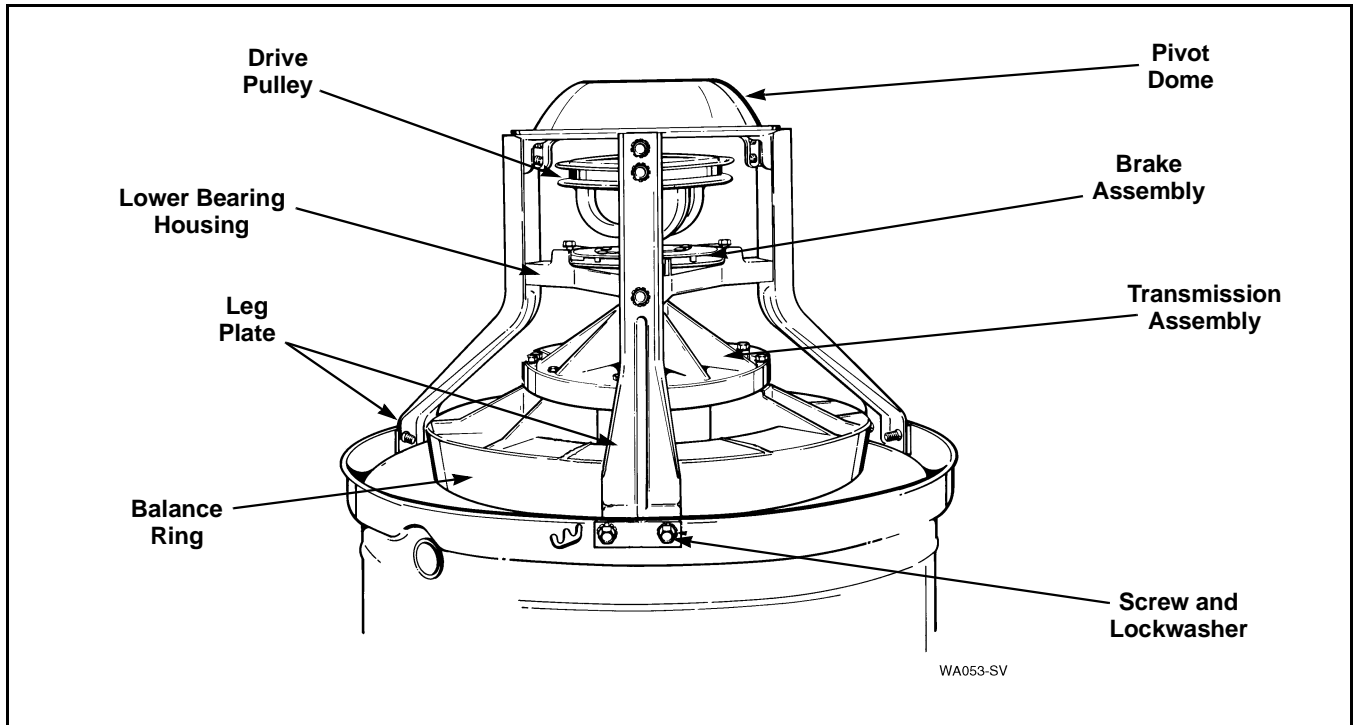

Figure 44
- s. Remove screws and lockwashers holding each support leg to outer tub. Refer to *Figure 44*. Then lift transmission, balance ring and pivot dome off tub.